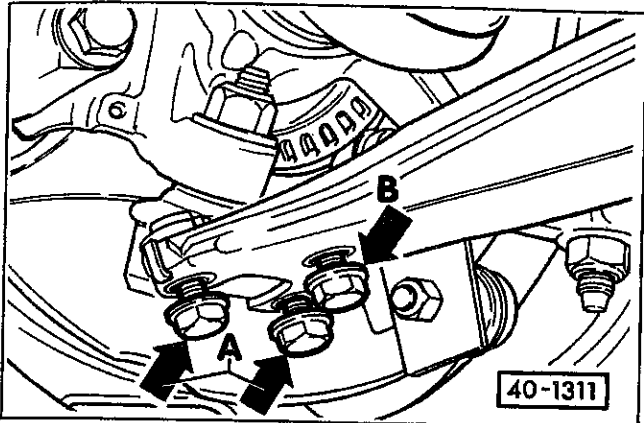

Fig. 14. Remove ball joint bolts A and B.
- Raise the front of the vehicle and support it securely on jack stands. Make matching marks on the control arm and ball joint, then remove the ball joint mounting bolts. See Fig. 14.
2. Raise the front of the car and support it on jack stands. Make matching marks on the control arm and ball joint, then remove the ball joint mounting bolts. See Fig. 14.